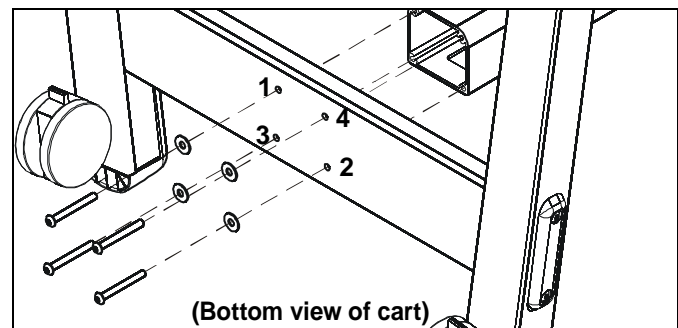
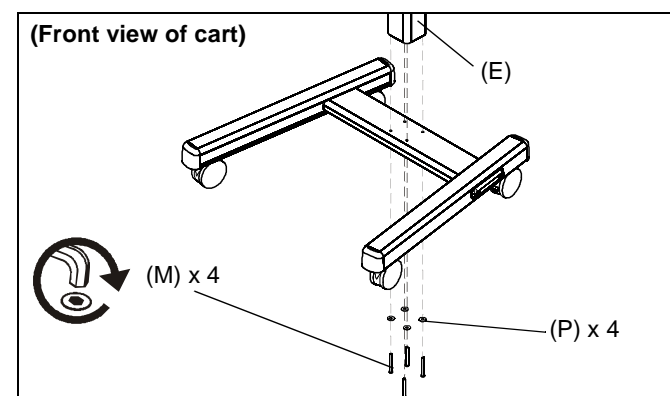

Figure 3
Figure 4
NOTE: Insert and turn screws in order shown (1, 2, 3, 4) in Figure 3.
5. Attach center post (E) to leg assembly using four 5/16-18 x 2-3/4" button head cap screws (M) and four 5/16" washers (P). (See Figure 3) and (See Figure 4)